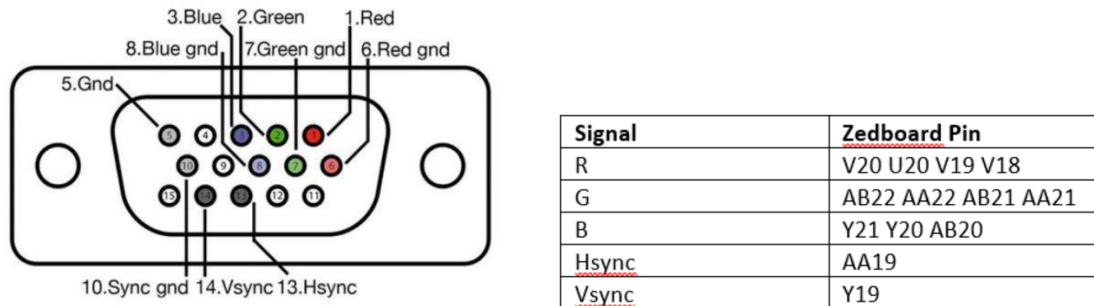

Figure 6: VGA physical connectors and pin allocations
- 12) Include and check the furnished constraint file named Base_line_top.xdc. Check the constraints according the zedboard datasheet and as showed figure 6.